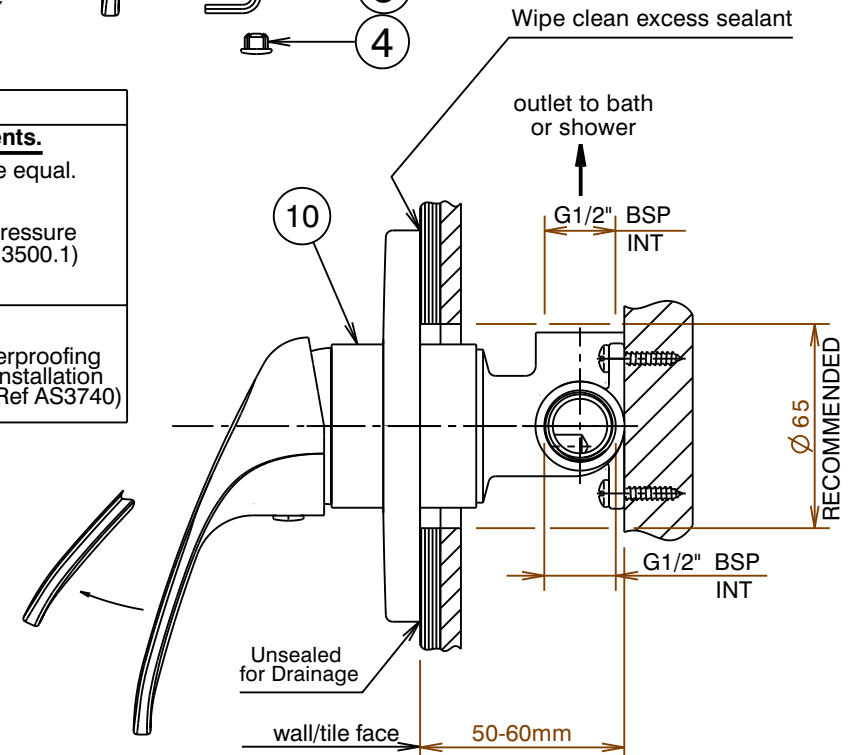

Fig. 1
Installation (Fig. 1 & 2)
- * Mixer body (10) must be installed square to wall/tile face, to ensure cover plate (5) sits flush.
- 2) Apply a suitable clear sealant to the back edge of the cover plate (5), leaving an unsealed section at the bottom for drainage (See Fig. 1). Carefully slide the cover plate (5) together with seal (6) onto the mixer body (10), push firmly against the cover plate (5) until it contacts the wall/tile face & the sealant has formed a waterproof joint. Wipe clean any excess sealant from the chrome surfaces & the wall/tile face (See Fig. 1).
- 3) Fit handle (1) as shown, taking care that it is pushed fully onto cartridge stem, then tighten grub screw (2) using 2.5mm allen key (3). Fit handle plug (4).